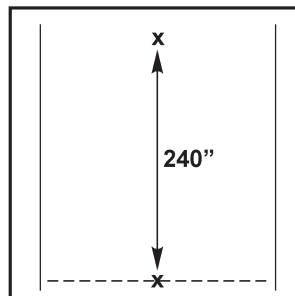
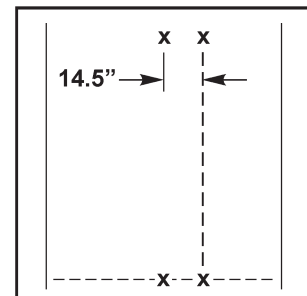
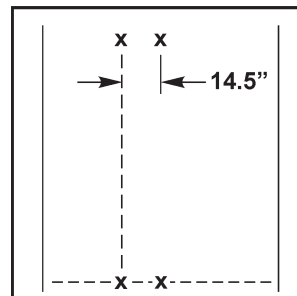

Figure 58
Figure 59
Figure 66
- Find and mark the center of the lane at the base and 240 inches above the base (see Figure 58).
- Measure 14.5 inches to the RIGHT of each center point in Figure 58, and snap a vertical chalk line (see Figure 59).
- Measure and mark 14.5 inches to the LEFT of each center mark in Figure 58 and snap a vertical chalk line (see Figure 66).